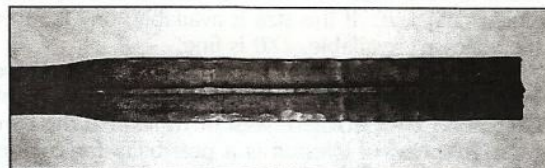

Fig. 2
4. Taking care not to damage the shaft, smooth out both edges (see fig. 2).